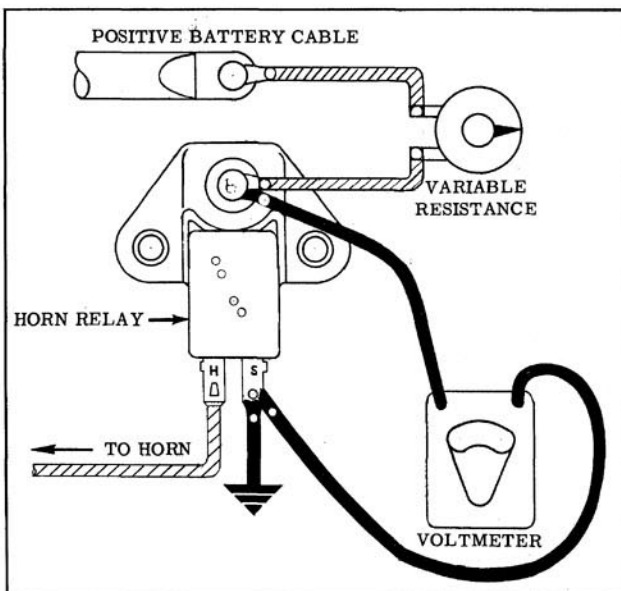

Fig. 13-82 Checking Horn Relay Closing Voltage
2. Connect a variable resistance of at least 10 ohms in series between battery cable and "B" terminal. (Fig. 13-82)